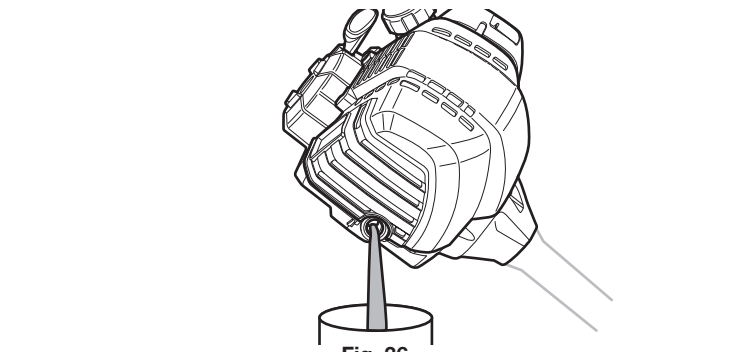

Fig. 36
- If the oil level is too high, tip the unit and drain the excess oil into an appropriate container (Fig. 36).
3. Tip the unit vertically to pour the oil out of the oil fill hole and into a container (Fig. 36). Allow ample time for complete drainage.